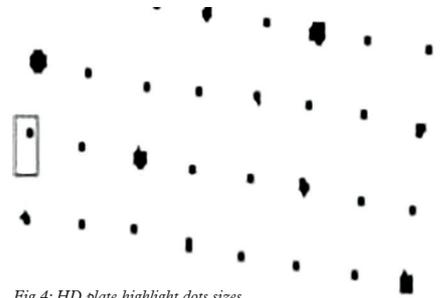

Fig.4: HD plate highlight dots sizes
- New digital HQ or HD plates have allowed unprecedented refinement of the plate screen. An HD plate is made up of a number of variable dot sizes and support dots on the plate (Fig. 4), allowing for plate screens with high LPI and highlight dots that are less than 1 percent.